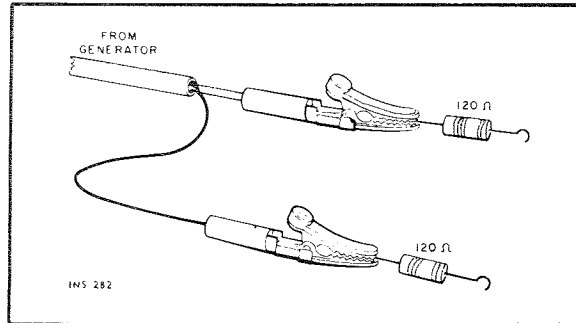
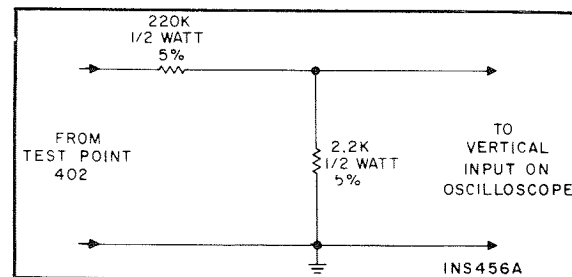

Figure 7. Connections To Provide 300-ohm Generator Output Impedance. Matching Resistors Reduce Generator Voltage By Half At Antenna Terminals.
Figure 8. Voltage Divider Probe.
- (1) Set TUNING dial pointer to zero (0) calibration mark on the logging scale. If the dial pointer is not centered on the 0 at the extreme end of the knob rotation, reposition the pointer assembly on the dial cord and cement the pointer in place to prevent slippage. Allow cement to thoroughly dry.
- (2) Connect an accurately calibrated DC VTVM to Test Point 9B (on TUNE-O-MATIC circuit board). DO NOT USE DC VOM.
- (3) Rotate TUNING knob to center dial pointer on 88 MHz calibration mark on dial glass.
- (4) Using a small screwdriver, adjust R2B, FM ALIGNMENT POT. for DC VTVM reading of exactly 4.3 volts. Disconnect DC VTVM.
- (5) Connect an FM generator to the FM ANTenna terminals. Use a 120-ohm composition resistor in series with each lead from the generator (see Figure 7).
- (6) Connect a scope and an AC VTVM to either LEFT or RIGHT RCDR OUT jack.
- (7) Set FM generator frequency to receiver frequency, 90 MHz, modulated with 400 Hz, ± 75 kHz deviation. Set generator output level as low as possible.
- (8) Align (oscillator coil) L504 first, then (mixer coil) L503, and (RF coil) L502 for maximum reading on AC VTVM and tuning meter, and maximum waveform amplitude and symmetry.
- (9) Set generator frequency and TUNING dial pointer to 106 MHz. Align (oscillator trimmer) C512 first, then (mixer trimmer) C511, and (RF trimmer) C503 for maximum reading on AC VTVM and tuning meter, and maximum waveform amplitude and symmetry.
- (10) Repeat alignment several times until accurate dial calibration and maximum gain are obtained. Keep generator output level as low as possible during all adjustments.
- (1) Connect an FM generator to the FM ANTenna terminals. Use a 120-ohm composition resistor in series with each lead from the generator (see Figure 7).
- (2) Set generator frequency to same frequency as receiver. Set generator RF output level to full output (approximately 100,000 μ V) with audio modulation off.
- (3) Adjust generator frequency for peak tuning meter reading.
- (4) Adjust FM METER ADJ. pot. R328 (on AM/FM IF, MPX board) for tuning meter reading of 4.5.
- (1) Connect RF output of multiplex generator to the FM ANTenna terminals. Use a 120-ohm composition resistor in series with each lead from the RF output (see Figure 7). Set MPX generator for external modulation with 19 kHz pilot carrier, ± 7.5 kHz deviation (10% pilot, no audio). Tune receiver to RF frequency of MPX generator.
- (2) Connect DC VTVM to Test Point 403 (pin 4G on AM/FM IF, MPX board).
- (3) Adjust cores of Z401 and Z402 (on AM/FM IF, MPX board) for maximum reading on DC VTVM (2.5 to 4 VDC).
- (4) Connect output of audio generator, set for 1 kHz, to the external modulation input of MPX generator and to external sync input of an oscilloscope. Adjust audio generator level for composite signal ± 75 kHz deviation (10% pilot, 90% audio). Modulate right channel only.
- (5) Connect AC VTVM to LEFT RCDR OUT jack. Connect scope through voltage divider probe (see Figure 8) to Test Point 402 (pin 4K on AM/FM IF, MPX board).